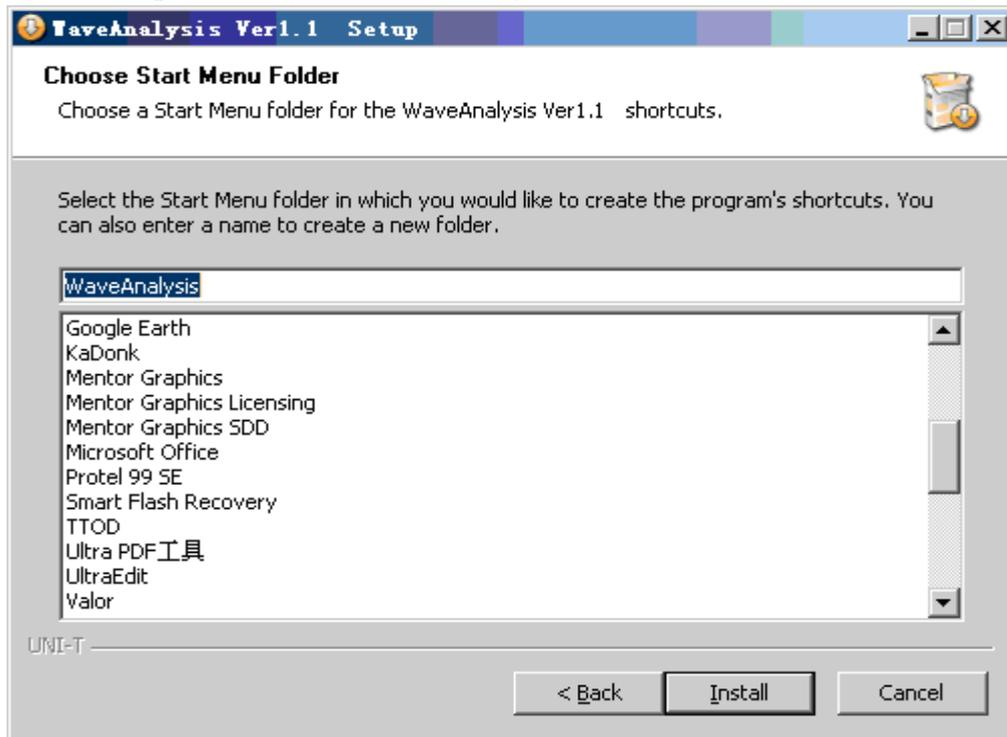
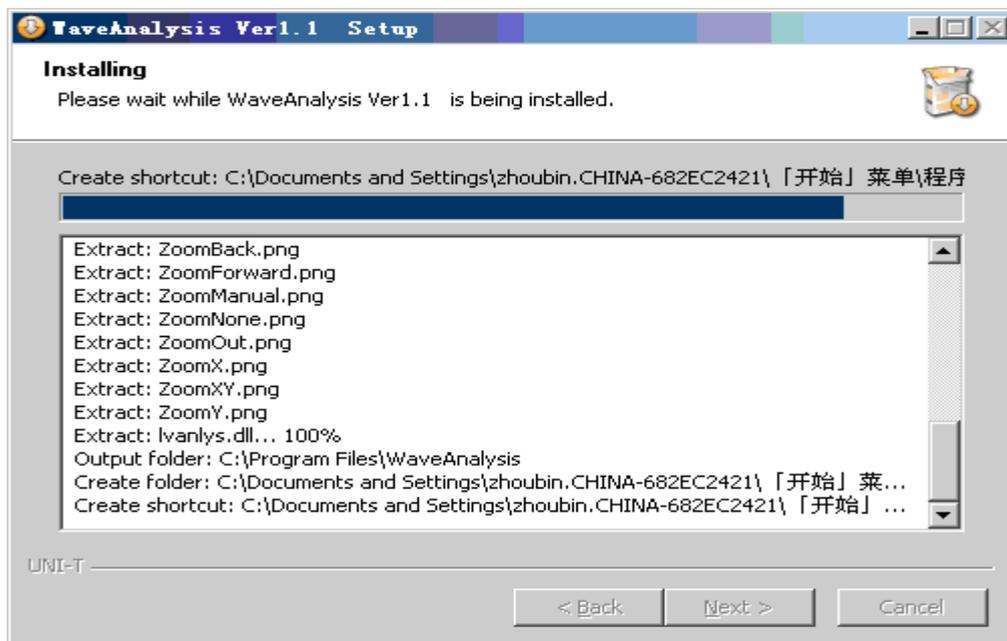

Fig. 1-5
Fig. 1-6
analysis software then click NEXT. Alternatively, simply click NEXT for the default path and enter the screen in Fig. 1-5.
**Step five :** In Fig. 1-5, designate the path for quick installation of the waveform analysis software, then click NEXT. Alternatively, simply click NEXT for the default path and enter the programmed automatic installation screen shown in Fig. 1-6.